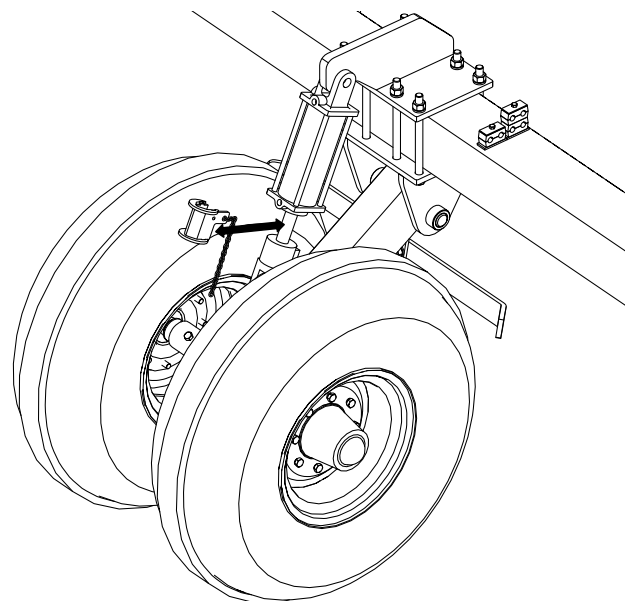

Figure 5 Transport Lock
6. Remove transport locks Figure 5. Store transport locks where they won't get lost.